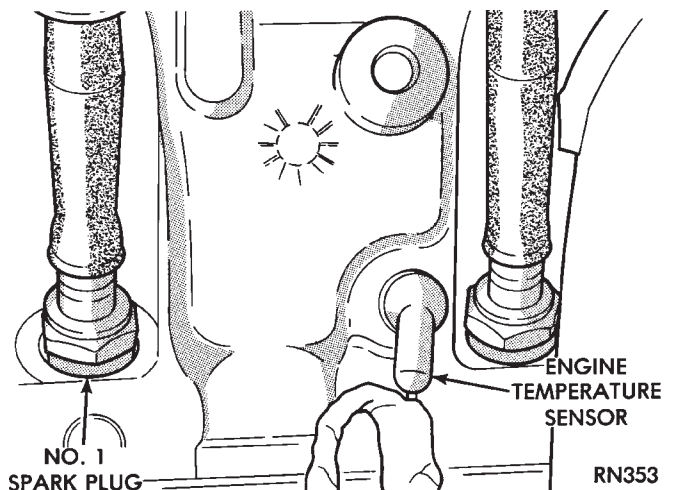

Fig. 9 Engine Temperature Sensor Electrical Connection
(13) Inspect the engine temperature sensor electrical connection (Fig. 9).